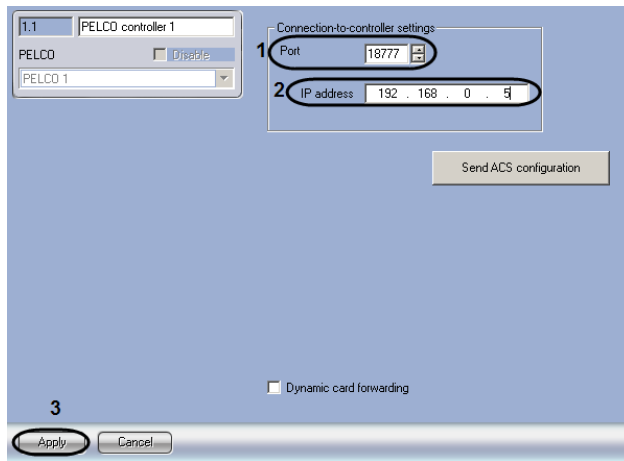

Fig. 3.3—2 Pelco controller settings panel
2. In the **Port** field, use the **up and down** buttons to set the connection port for the *Pelco* controller (Fig. 3.3—2, 1).